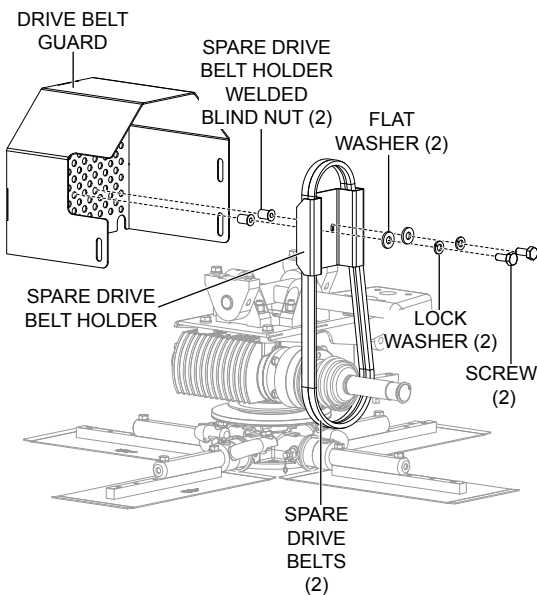

Figure 23. Spare Belt Removal
3. Remove the nut and flat washer (Figure 23) that secure the spare belt holder to the to the drive belt guard.